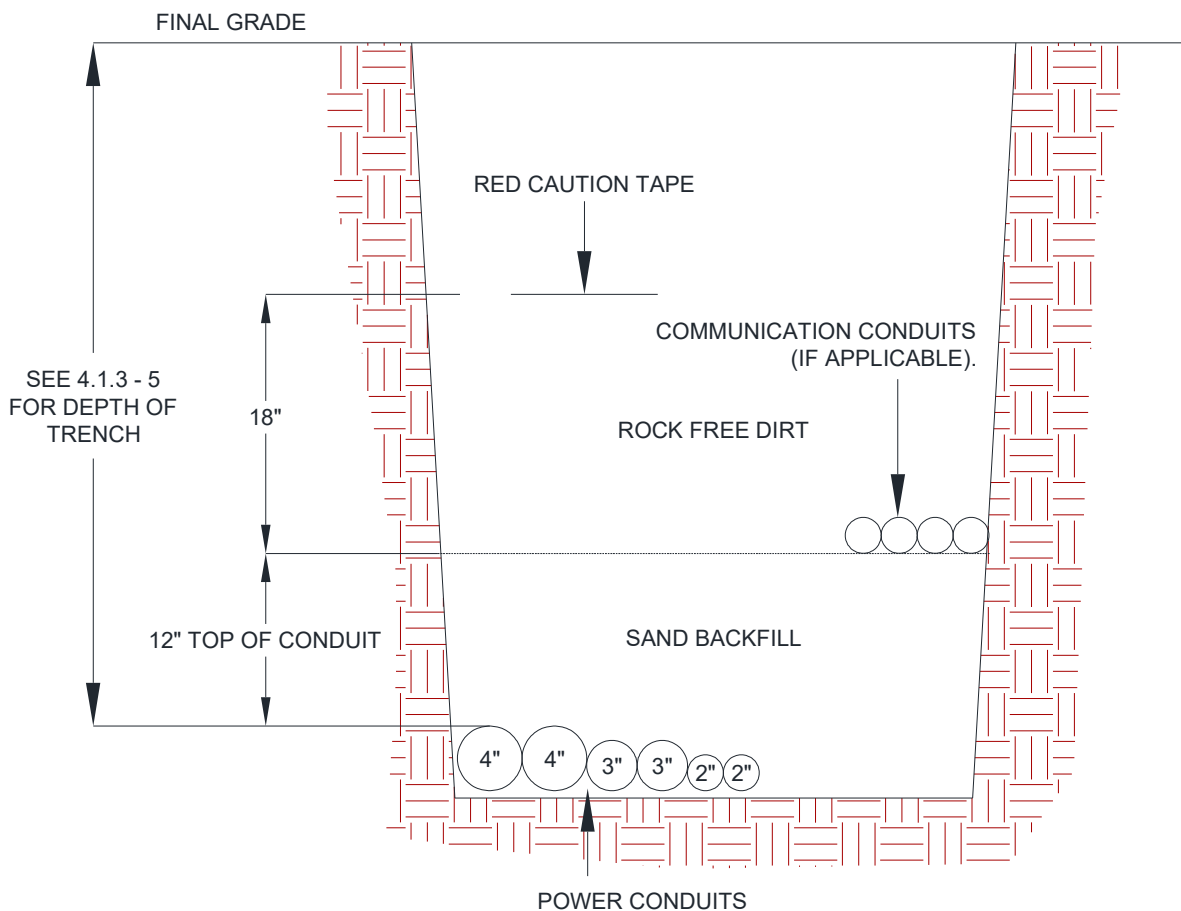

Figure 14.1 Joint Trench Typical Detail
- 8.1.3 See trench detail drawings for specifications (Figure 14.1)